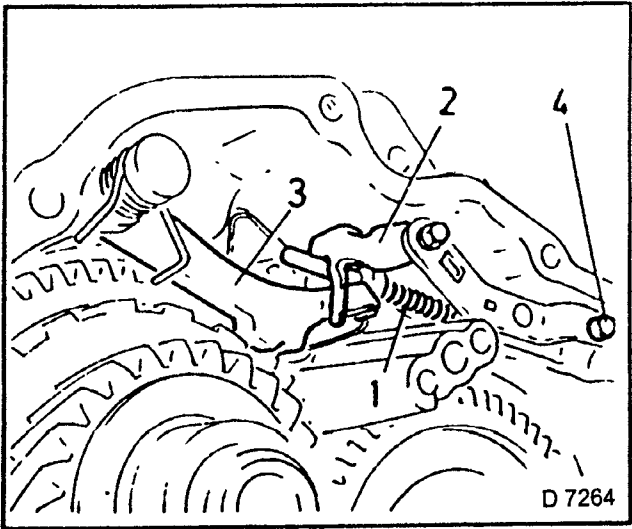

Fig. 510
1. Lock spring to main housing (Fig. 510, Item 4).